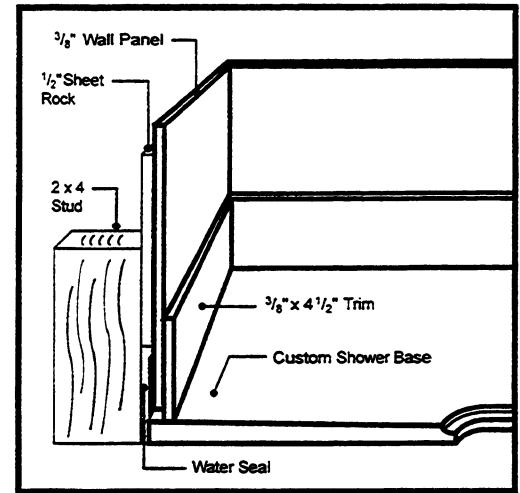

Fig. 1
The Custom Shower Bases are designed to be installed directly on a rough floor and against the wall studs. The wall panels are to be installed (usually over sheetrock) with adhesive (See Fig. 1).
- Step 6. Install 1/2" water-resistant sheetrock to the studs of the walls surrounding the base, leaving a 1/2" gap above the integral water seal (See Fig. 1) to prevent water damage to the wall should the sealant fail. The shower base is equipped with a 3-1/2" reinforced water seal around the perimeter of the base.